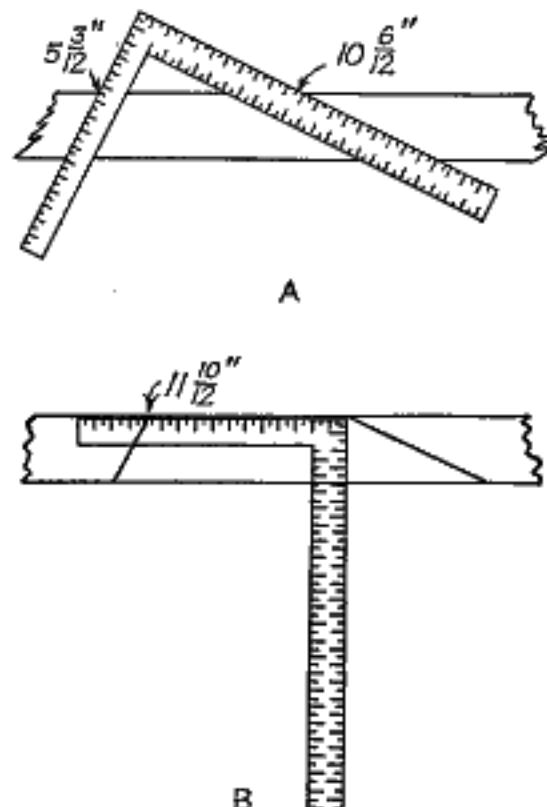

FIG. 99.—Using the scaling method to determine the length of a rafter whose run is 10 ft. 6 in. and whose rise is 5 ft. 3 in.
*Method 1. Scaling.*—Place the square on a piece of stock having a straight edge, using the side of the square with the inches divided into twelfths, and measuring the rise on one leg and the run on the other, to the scale of 1 ft. equal to 1 in. (Fig. 99). The figures on the legs of the square should coincide with the edge of the stock. Mark along the legs of the square with a sharp pencil or knife. Measure the distance between the intersections of these marks with the edge of the stock. This is the length of rafter to the scale of 1 in. equal to 1 ft. The inches and twelfths of inches on the square are simply read as feet and inches.